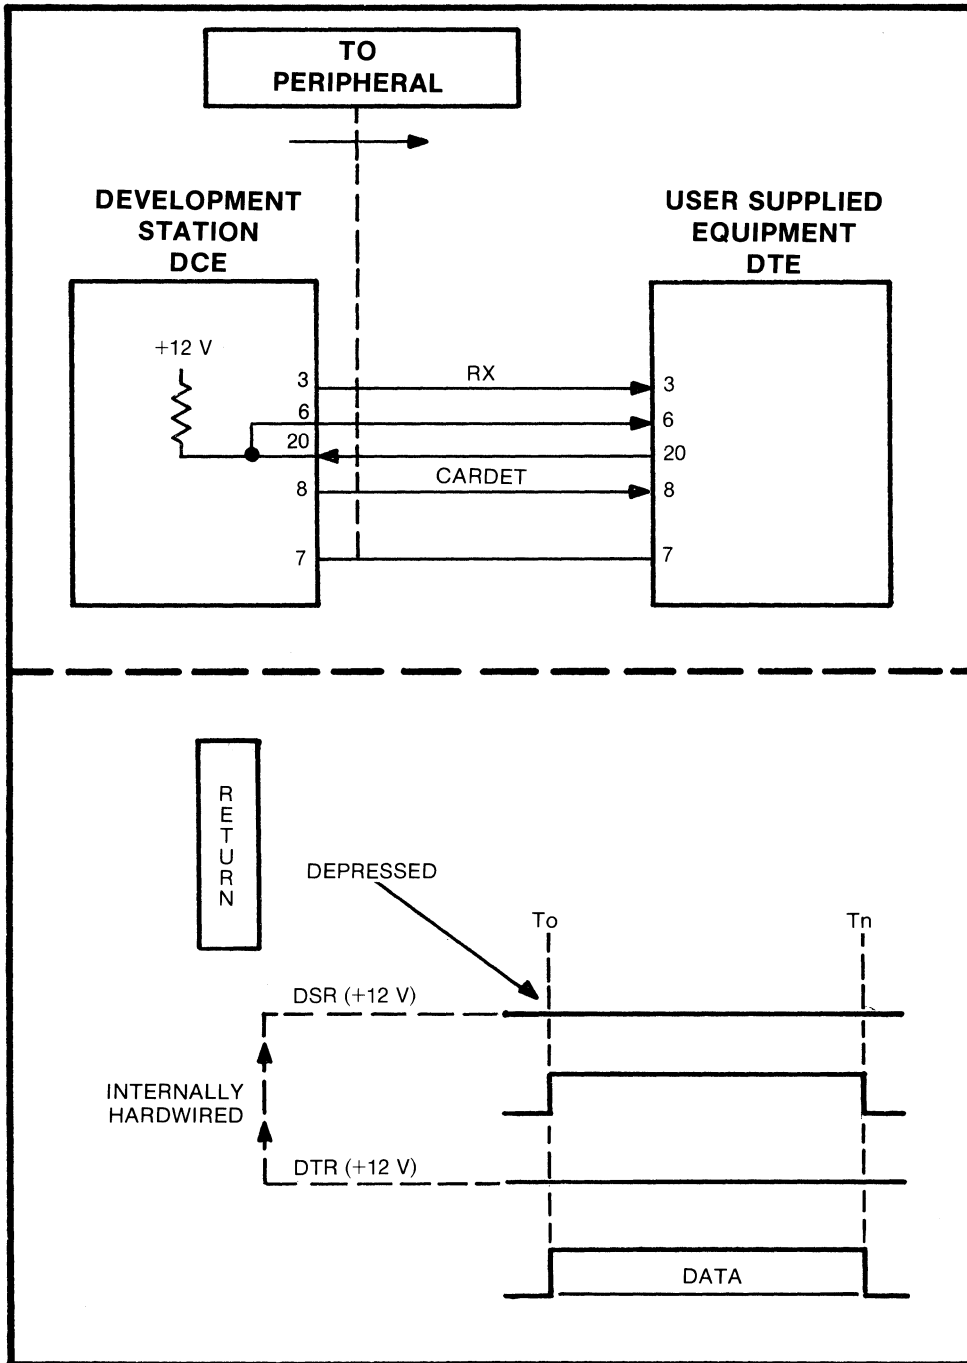

Figure 8-9. Modem as Talker
3. Mainframe as "modem talker" (figure 8-9)